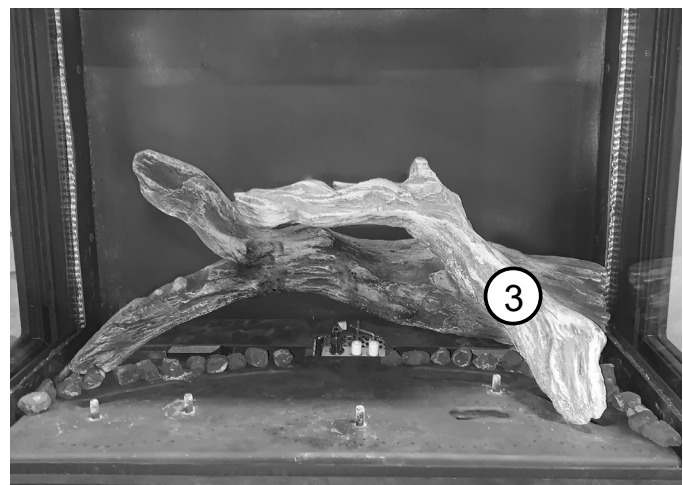

Figure 11.3. Rest the end of the #3 Right Log in the small pocket on the Base Log.
3. **Right Side Log:** Engage the hole on the underside of Right Log #3 with the pin on the right side of the burner. Lean the other side against Rear Log #1. Align the groove on the bottom of Right Log #3 with the large bump on Rear Log #1. Fig 11.3